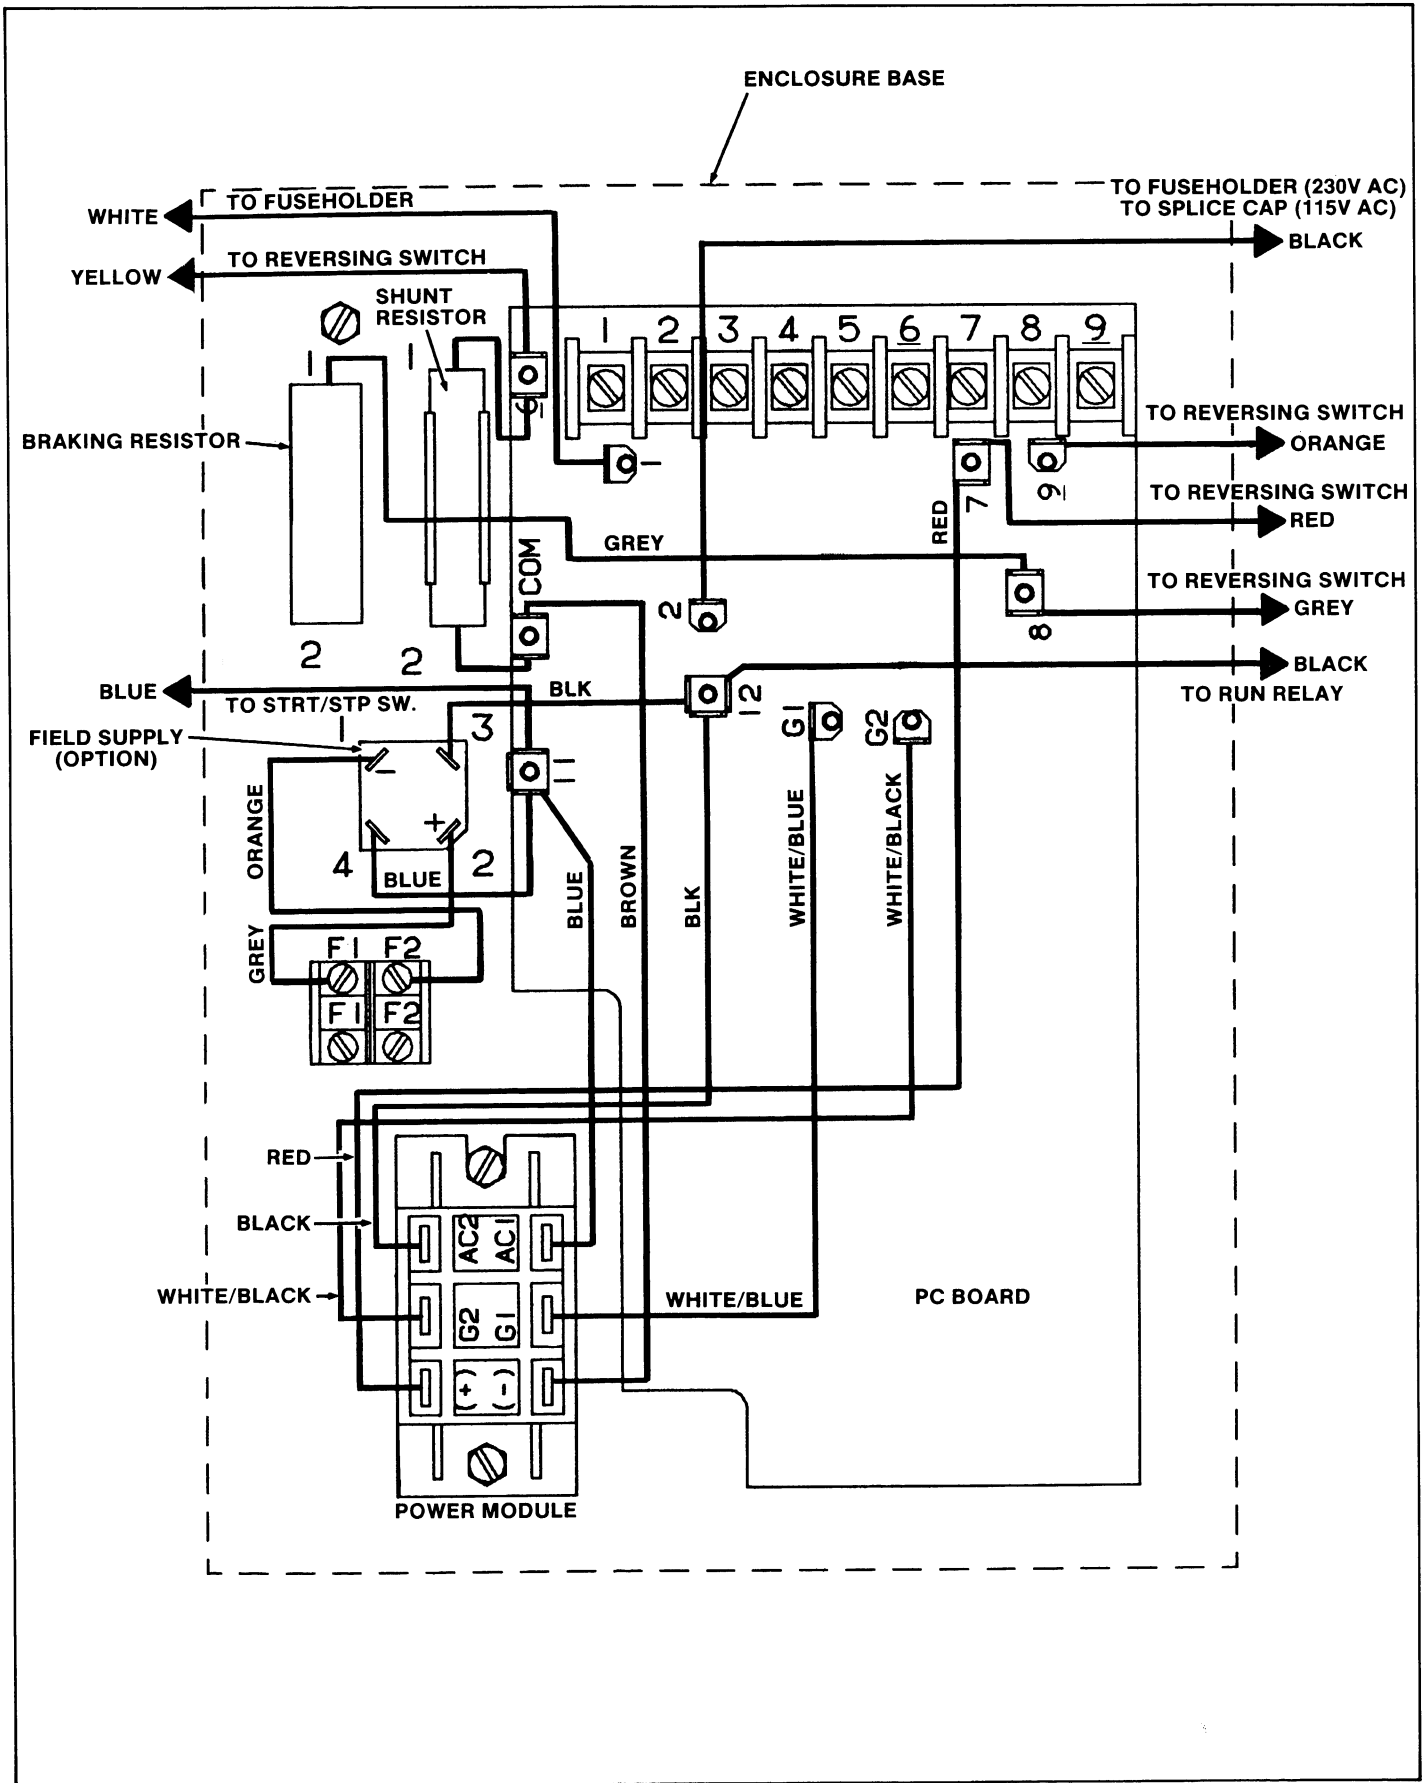

Figure 4 — Wiring Diagram For NEMA TYPE 4/13, REVERSING Controller
9. Reconnect leads to PC board quick connectors (see Figure 4).